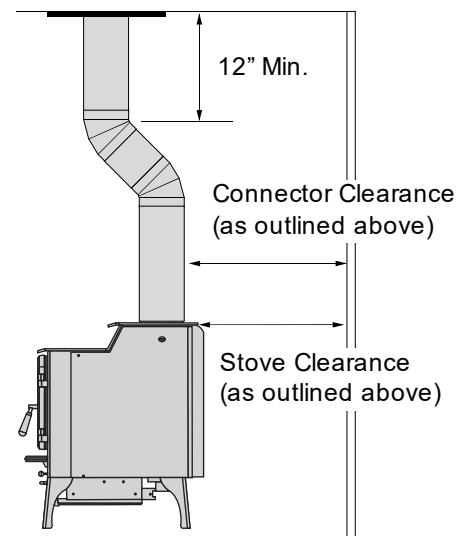

Figure 9
- If using offsets, use the connector clearance listed in Figure 9, **not the connector manufacturer's clearance.**